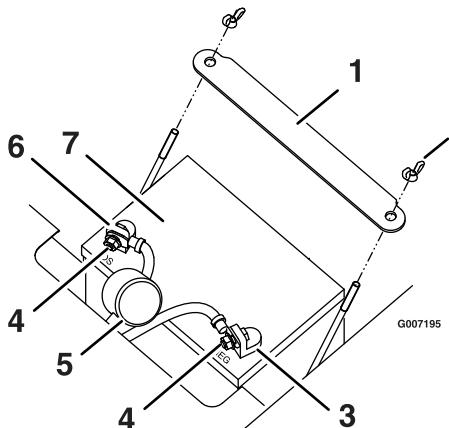

Figure 32
- Disconnect the negative (black) ground cable from the battery post (Figure 32). Retain all fasteners.
6. Remove the battery hold-down (Figure 32) and lift the battery from the battery tray.
1. Position the battery in the tray with the terminal posts toward the operating position (Figure 32).
5. Secure the battery with the hold-down (Figure 32).